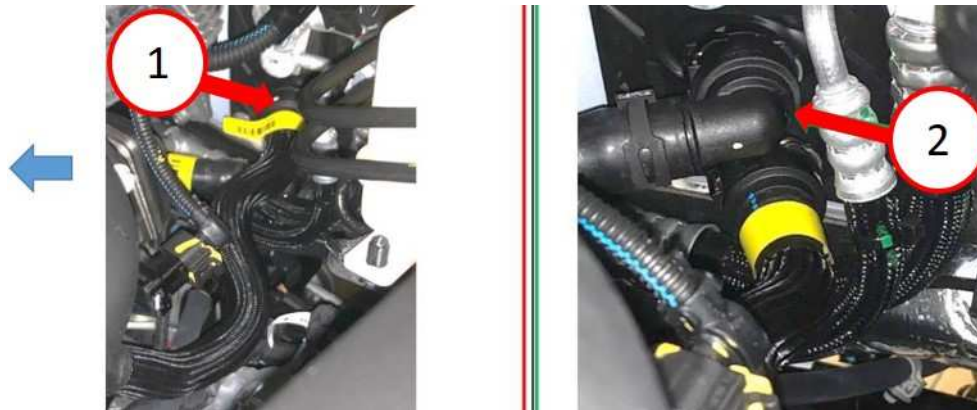

Fig. 1
3. Using a flashlight or mirror, inspect the heater hoses located on the driver side of the engine compartment, to verify the hose with the 90 degree connector is on top and the hose with the straight connector is on the bottom (Fig. 1) .